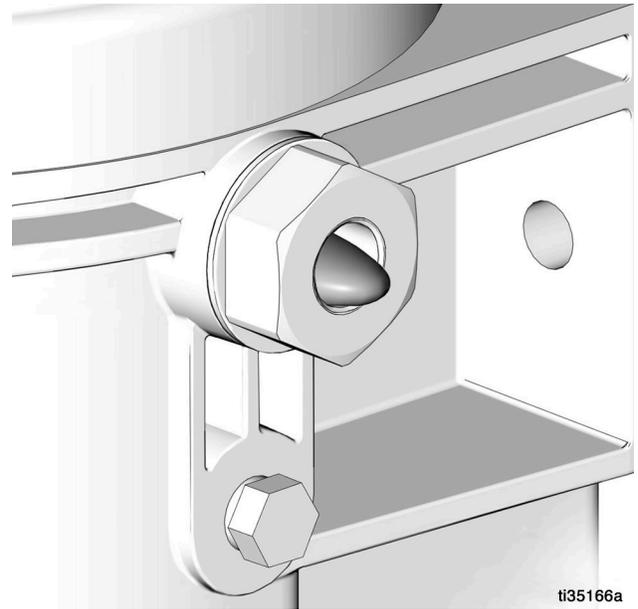

FIG. 21
2. Only run the pump until air is no longer dispensed with the lubricant out of element fitting (FIG. 21).